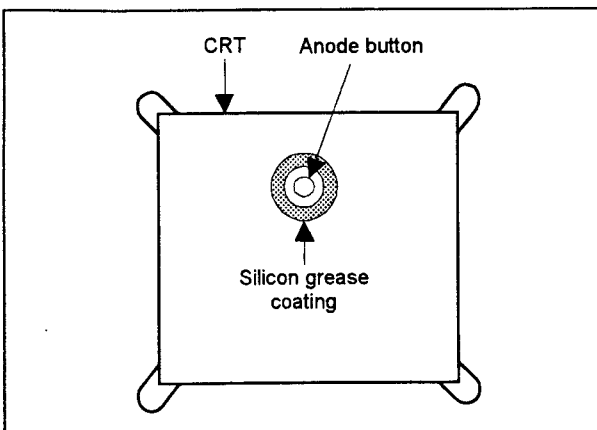
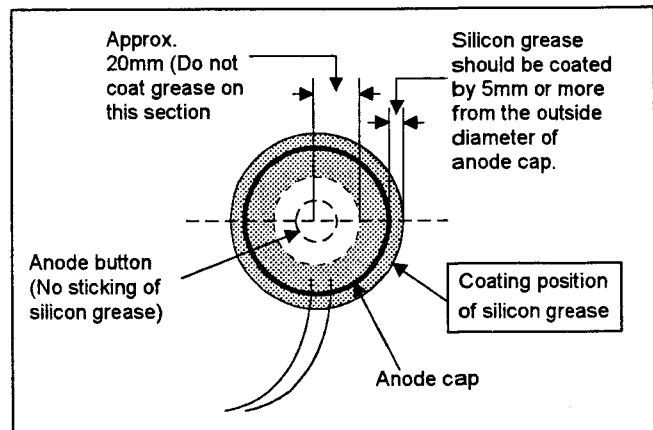

Fig. 6
Fig. 7
- Subsequent to replacement of the CRT and HV transformer or repair of the anode cap, etc. by dismantling them, be sure to coat silicon grease for electrical insulation as shown in Fig.6. Wipe around the anode button with clean and dry cloth. (Fig.6) Coat silicon grease on the section around the anode button. At this time, take care so that any silicon greases dose not stick to the anode button. (Fig.7)